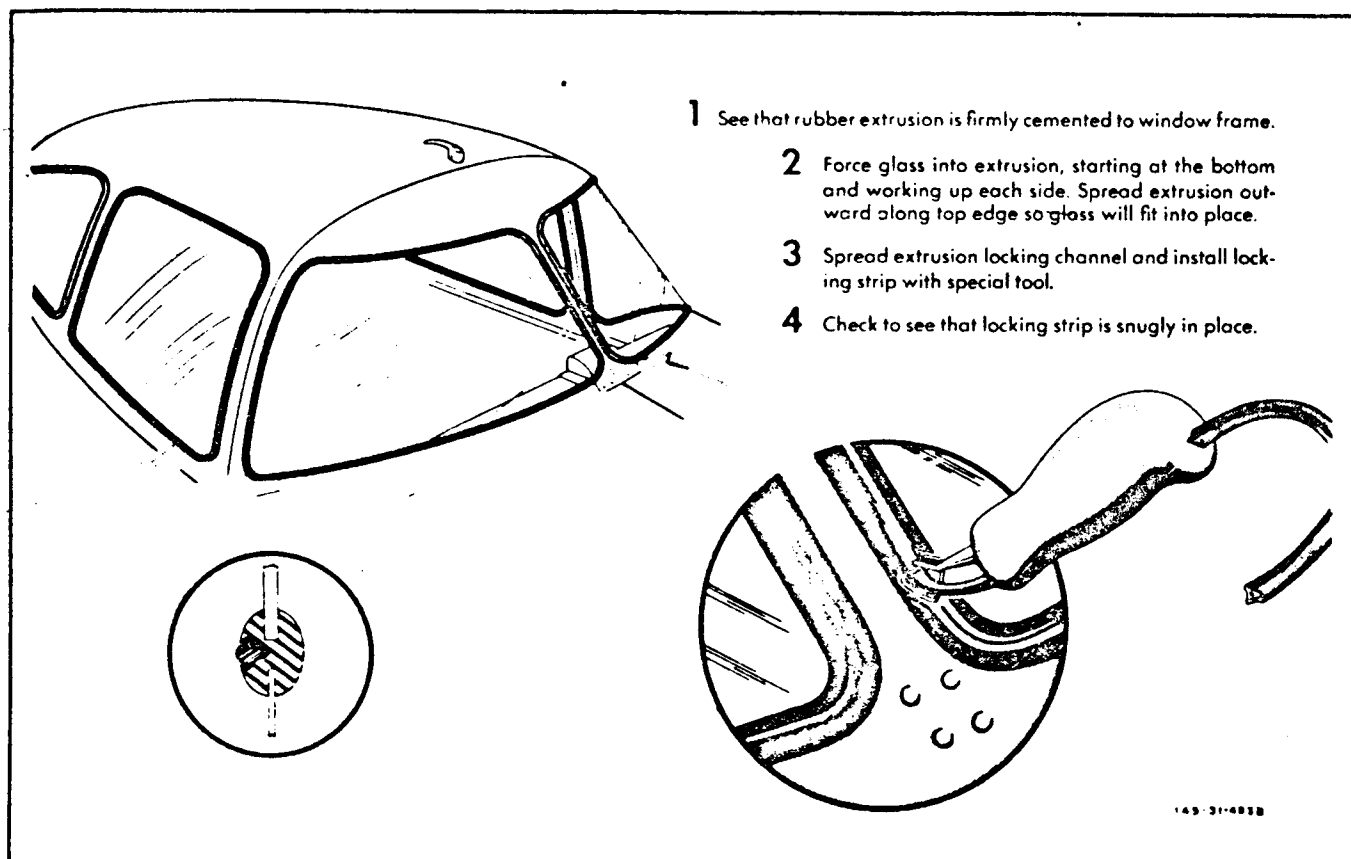

Figure 10 - INSTALLING AND REMOVING WINDOW PANELS
**Installing and Removing Windshield Panel—See figure 10.**